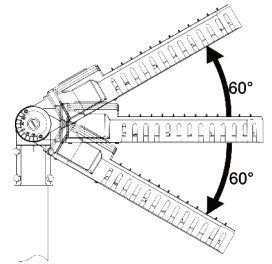

FIG.10
- To aim the fixture, loosen and adjust the M12 knuckle bolt to right angle, adjust the aim 0 to 60°both upward and downward(see FIG.10).